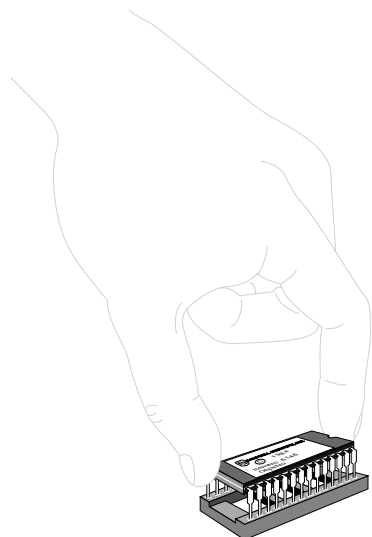

FIGURE 6. Inserting the New PROM
12. Hold the new PROM by either end as shown in Figure 6. Position the PROM over the sockets with the circular notch on the end of the PROM oriented the same direction as the surrounding PROMs.